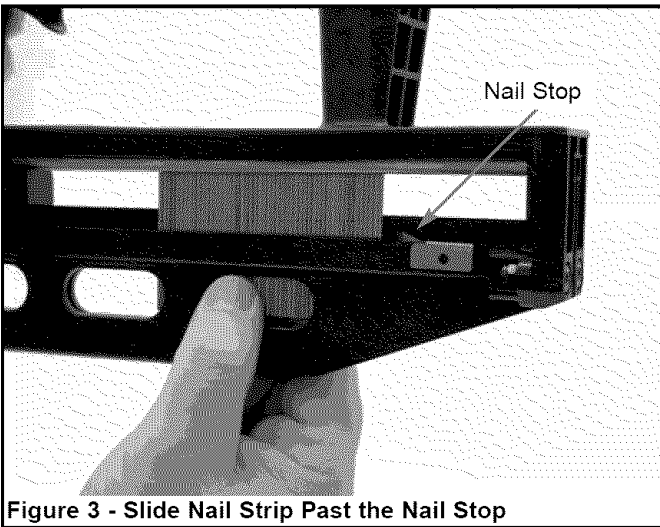

Figure 3 - Slide Nail Strip Past the Nail Stop
- Slide nail strip towards the front of the magazine, making sure strip is past the nail stop (see Figure 3).